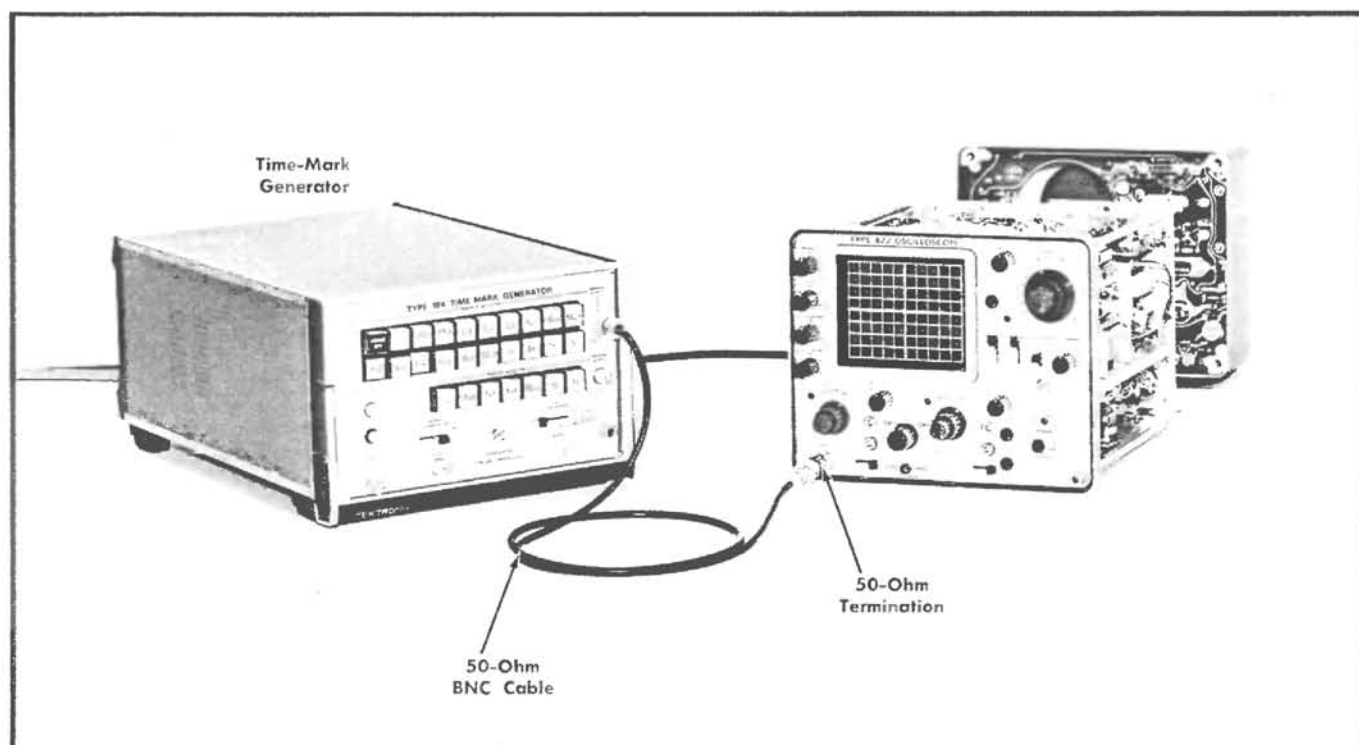

Fig. 6-41. Initial test equipment setup for steps 38—47.
- a. Test equipment setup is given in Fig. 6-41.